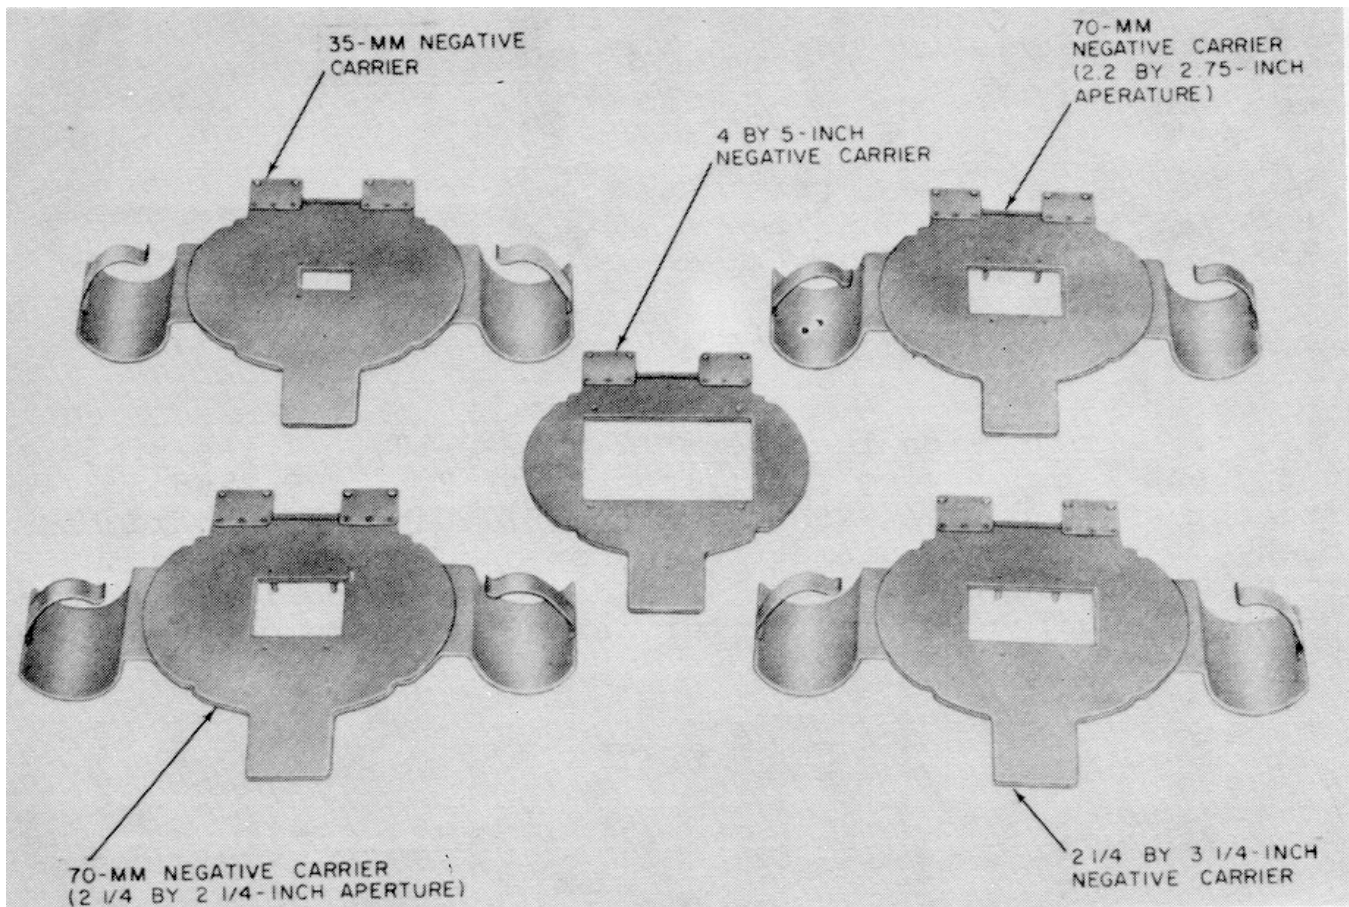

FIGURE 2-11. Negative carriers, EN-91A.
j. Negative Carriers, EN-91A (figure 2-11). Five negative carriers are provided with the printer. Guides in each negative carrier are provided to center each carrier in the film stage bridge of the carriage assembly.